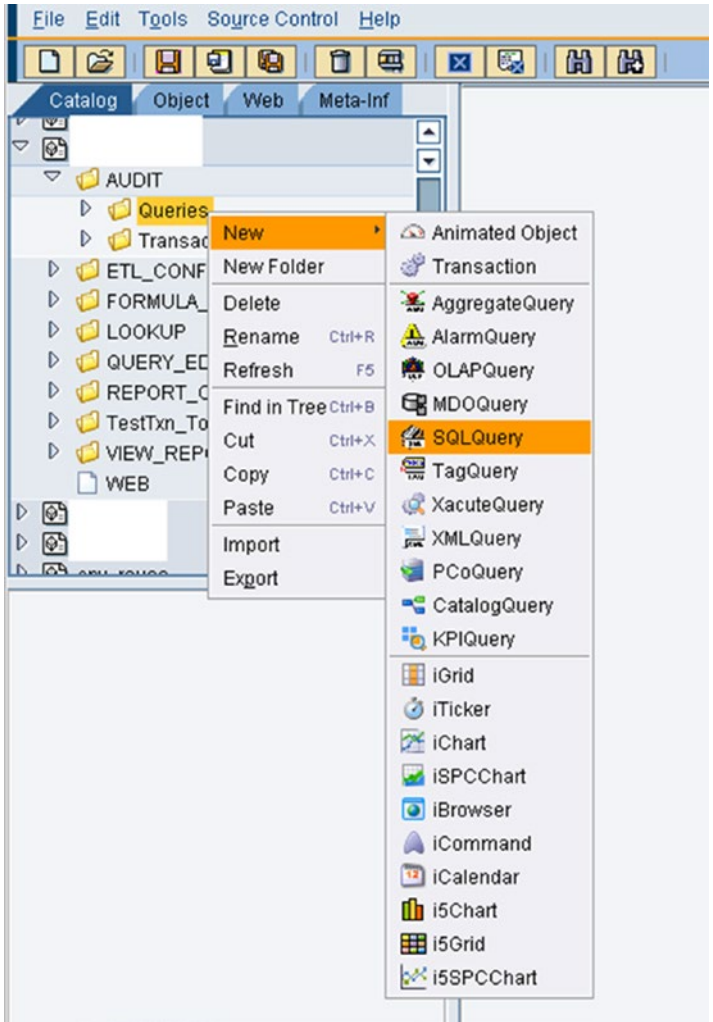

Figure 6-2. Creating a SQL query template
1. From the Catalog tab, select Project, then right-click and select New. Choose a query type, such as SQL Query. See Figure 6-2.